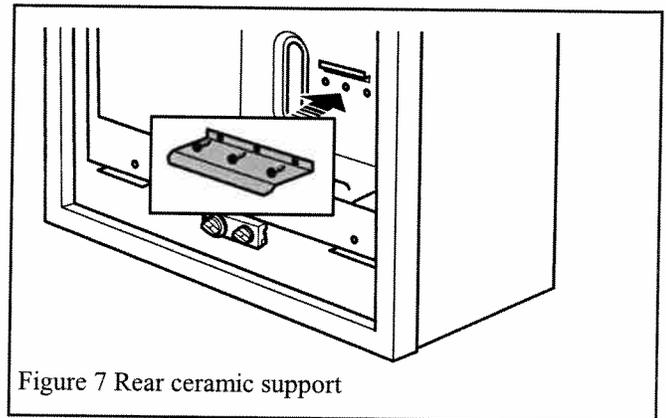

Figure 7 Rear ceramic support
- Remove the rear ceramic support (fig 7).